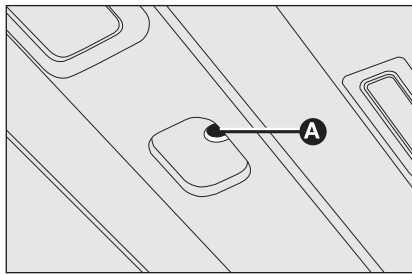

fig. 98
- introduce the socket in **A-fig. 98** and turn it: